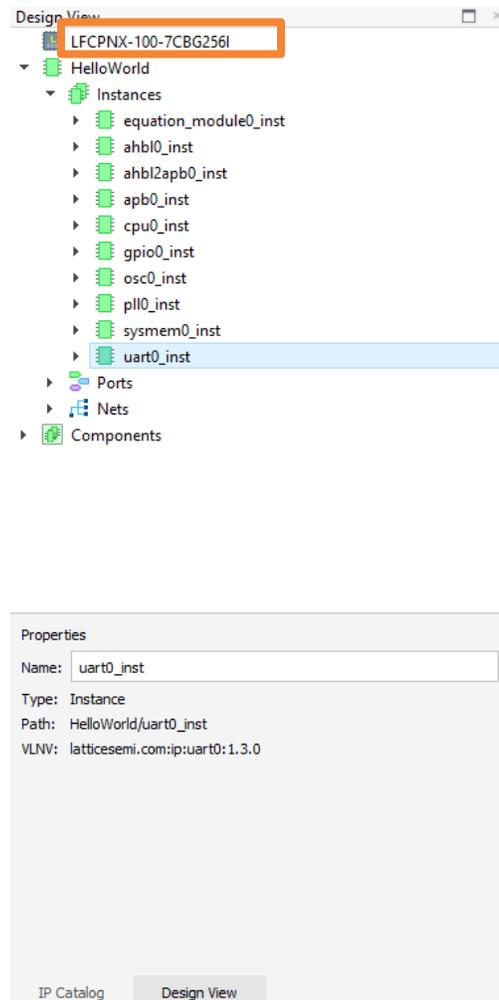

Figure 2.34 Design View of Device Partnumber
4. Click **Yes** to configure all IPs in current project. The new device partnumber shows in Design View (Figure 2.34).